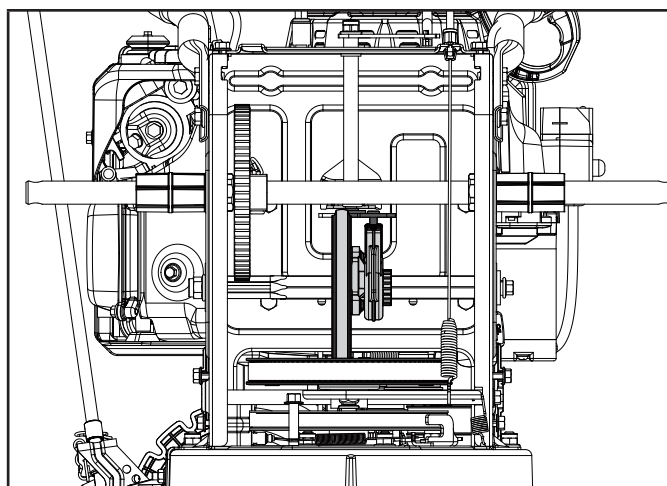

Figure 49
8. Clean the aluminum friction disc by wiping down with a clean cloth and follow the previous steps in reverse order to reassemble hexagon shaft parts. Make sure the parts are aligned as shown when finally assembled (Fig. 49).